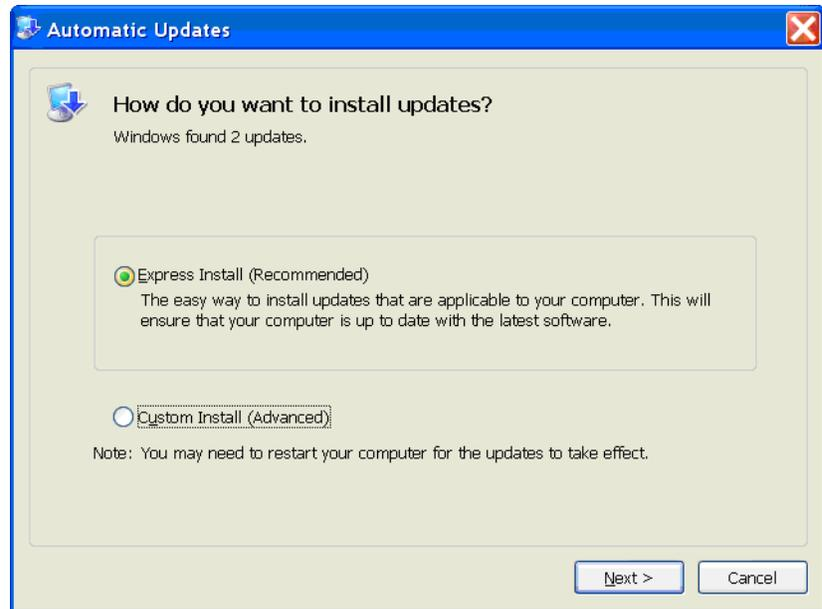

Figure A-4 Automatic Updates Window (How do you want to install updates?)
9. An AUTOMATIC UPDATES window will be displayed prompting for an installation method as shown in Figure A-4 below.